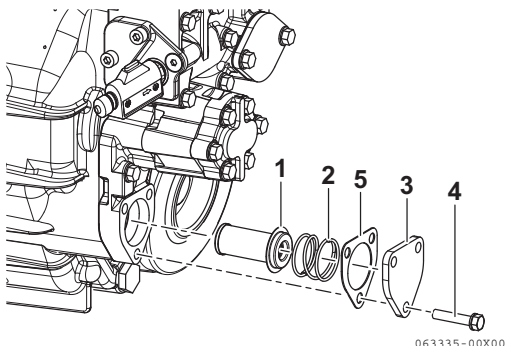

Figure 3
- (a) Remove side cover (**Figure 3, (3)**) and remove the strainer (**Figure 3, (1)**).
- (c) Hold the strainer in place with the coil spring (**Figure 3, (2)**) and insert into the case. Install a new gasket (**Figure 3, (5)**) in the side cover.